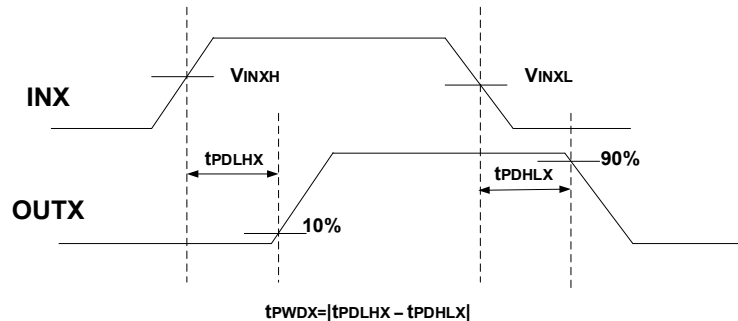

Figure 5. Delay Matching and Pulse-Width Distortion
- t_{PWD} – pulse-width distortion defined as $|t_{PDLHA} - t_{PDHLA}|$ for channel A and $|t_{PDLHB} - t_{PDHLB}|$ for channel B. The measure criteria can be referred to Figure 5.